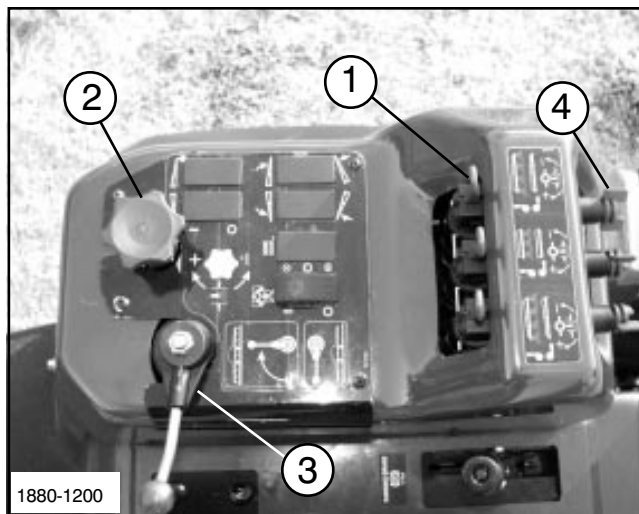

FIG. 1
CONSOLE (FIG. 1):
4. BOOM BYPASS VALVES: Manual adjustment to equalize restriction of the particular Boom Section when a section is turned "OFF." See FIG. 1.